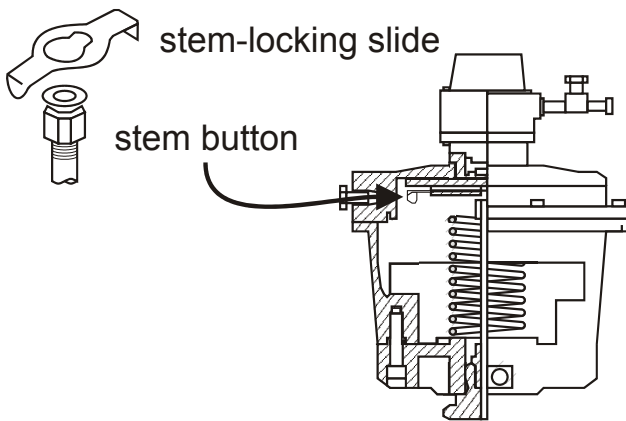

Fig. 3. Stem-locking slide
2. Position the stem-locking slide so that the large hole is in view (see also Fig. 3).